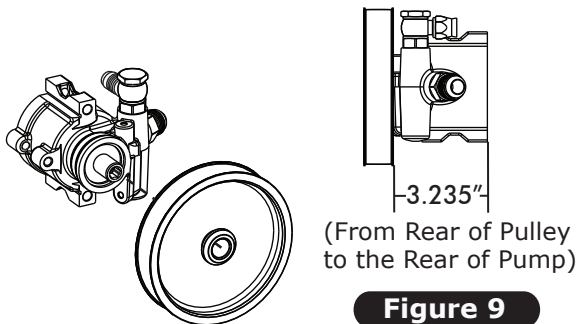

Figure 9
1. Using a power steering pump pulley installer, install the power steering pulley onto power steering pump (See Figure 9, below). **NOTE: Pulley must be installed using proper tool (K-D Tool #2897 or equivalent). Do not attempt to hammer or press pulley onto power steering pump shaft. Installing pulley using a press will destroy pump!**